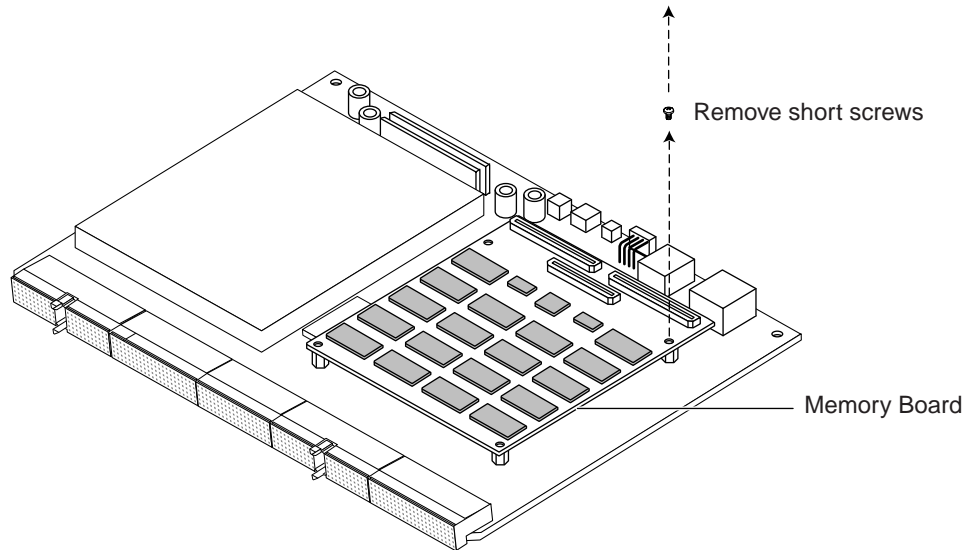
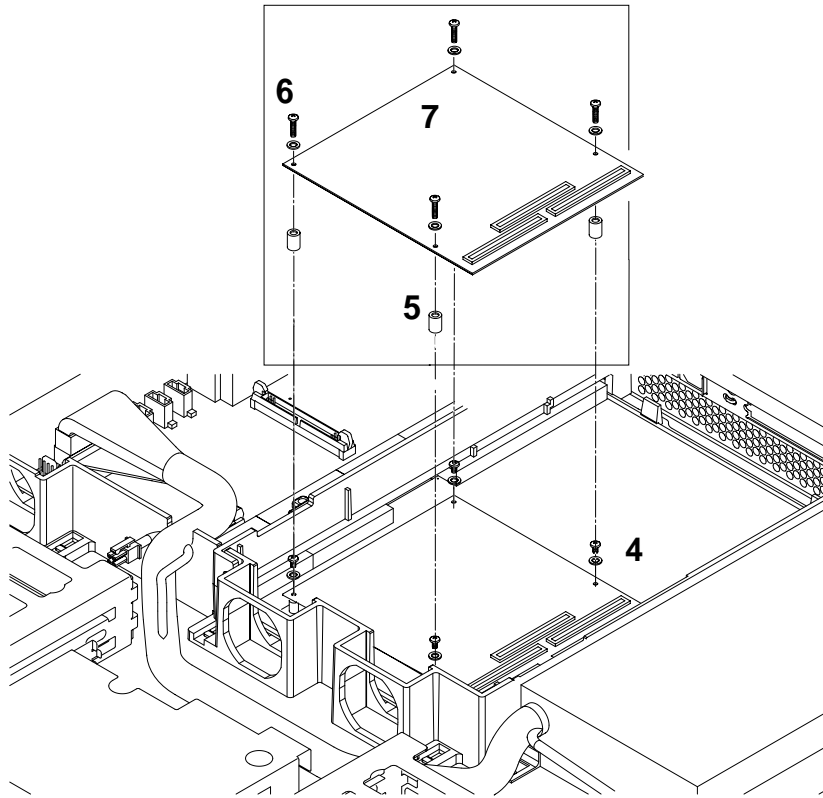

FIGURE A-3 Removing the Mounting Screws from the Currently Installed Memory Board
FIGURE A-4 Removing the Old Screws and Inserting the New Ones
4. Using a Phillips No.1 screwdriver, remove the screws and washers from the base memory board (see FIGURE A-3 and FIGURE A-4).
5. Position the new spacers over the screw holes (see FIGURE A-4).
6. Insert the new, longer screws with their washers through the holes in the new board (see FIGURE A-4).
7. Position the second memory board above the base memory board so that the connectors line up and the screws pass through the spacers (see FIGURE A-4).